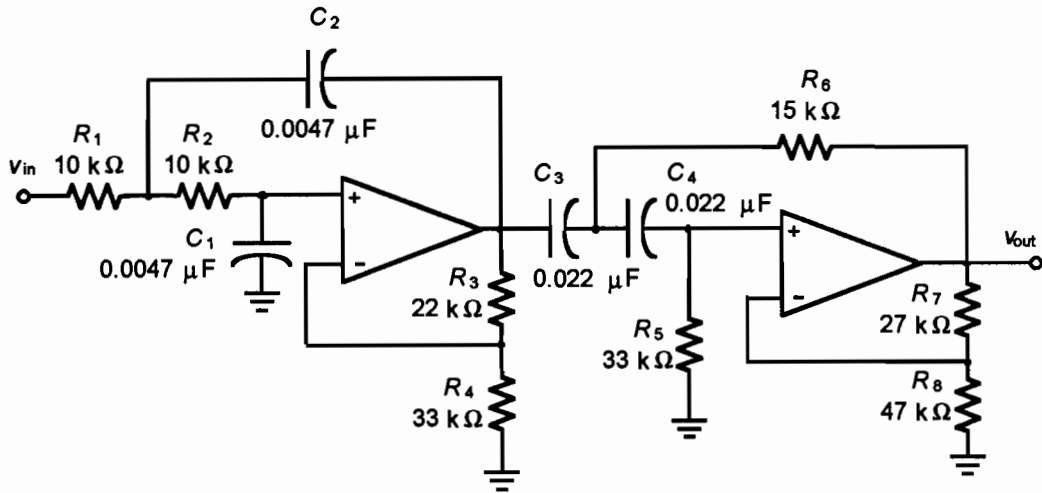

Figure 60.2
1. Build the circuit of Figure 60.2 (next page). Apply DC power to your circuit.
2. For the two-stage band-pass circuit of Figure 60.2, describe the circuit operation. For example, is the lower corner frequency less than or greater than the upper corner frequency, and which section controls the lower corner frequency?
4. To have a Butterworth filter response the low-pass and high-pass filter sections of the filter of Figure 60.2 must have gains of \_\_\_\_\_.